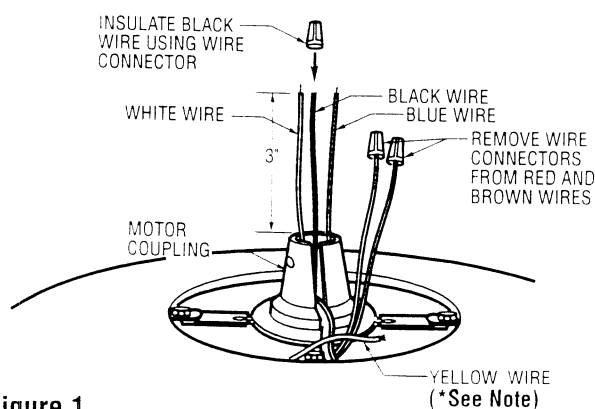

Figure 1
1. Remove the wire connectors from the red and brown wires. Cut the white, blue and black wires about 3" above the motor coupling (Figure 1). Strip insulation 1/2" from end of white, blue, red and brown wires. Install a wire connector on the black wire; this wire will not be used.